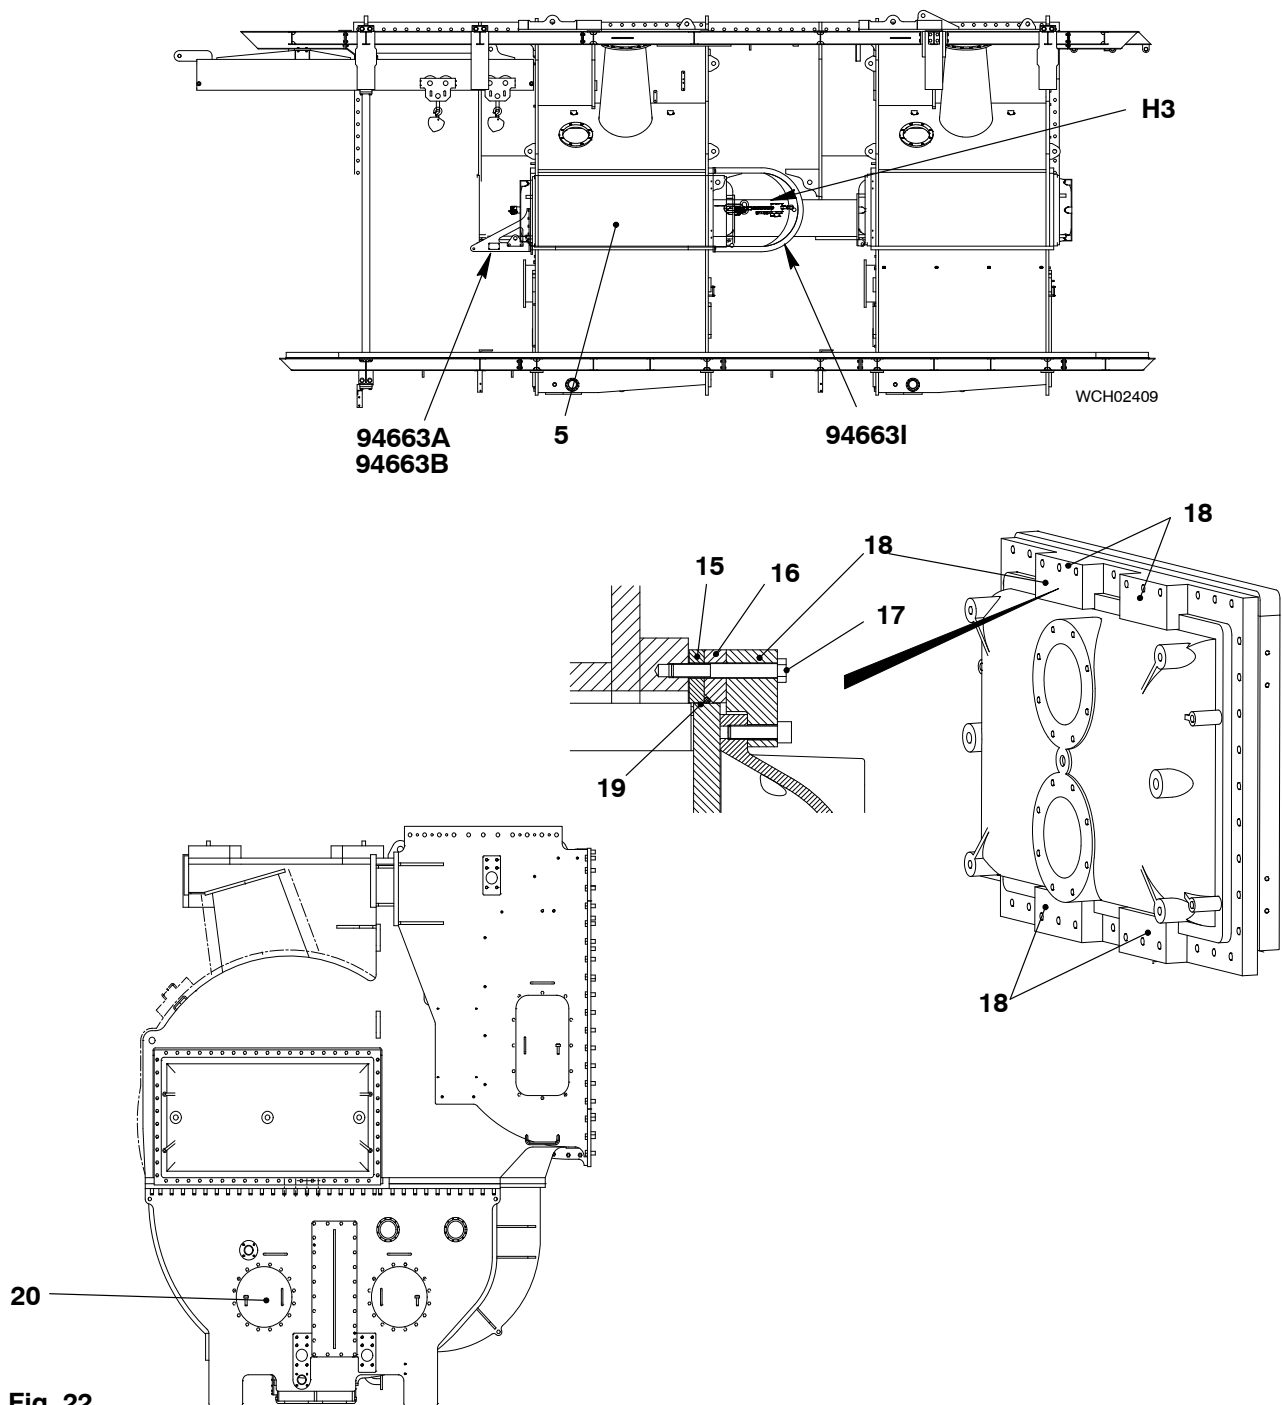

Fig. 22
- 16) Open the inspection cover (20, Fig. 22) to get access into the under-slung part.
- 17) Apply a layer of high-temperature silicon sealing compound (ABT.250) to each side of the SAC (12) and the related surfaces in the housing in the scavenge air receiver.
- 18) Apply a layer of high-temperature silicon sealing compound (ABT.250) to the sealing surfaces of the SAC (12).
- 19) Close the inspection cover (19).
- 20) Continue to operate the manual ratchet (H3) until the the SAC (5) is fully in.